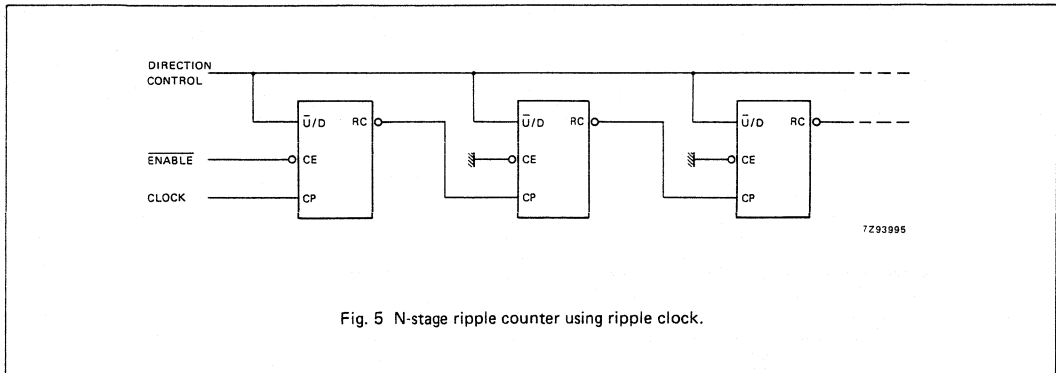

Fig. 5 N-stage ripple counter using ripple clock.
Overflow/underflow indications are provided by two types of outputs, the terminal count (TC) and ripple clock (RC). The TC output is normally LOW and goes HIGH when a circuit reaches zero in the count-down mode or reaches "9" in the count-up-mode. The TC output will remain HIGH until a state change occurs, either by counting or presetting, or until U/D is changed. Do not use the TC output as a clock signal because it is subject to decoding spikes. The TC signal is used internally to enable the RC output. When TC is HIGH and CE is LOW, the RC output follows the clock pulse (CP). This feature simplifies the design of multistage counters as shown in Figs 5 and 6.
In Fig. 5, each RC output is used as the clock input to the next higher stage. It is only necessary to inhibit the first stage to prevent counting in all stages, since a HIGH on CE inhibits the RC output pulse as indicated in the function table. The timing skew between state changes in the first and last stages is represented by the cumulative delay of the clock as it ripples through the preceding stages. This can be a disadvantage of this configuration in some applications.
In Fig. 7, the configuration shown avoids ripple delays and their associated restrictions. Combining the TC signals from all the preceding stages forms the CE input for a given stage. An enable must be included in each carry gate in order to inhibit counting. The TC output of a given stage is not affected by its own CE signal therefore the simple inhibit scheme of Figs 5 and 6 does not apply.